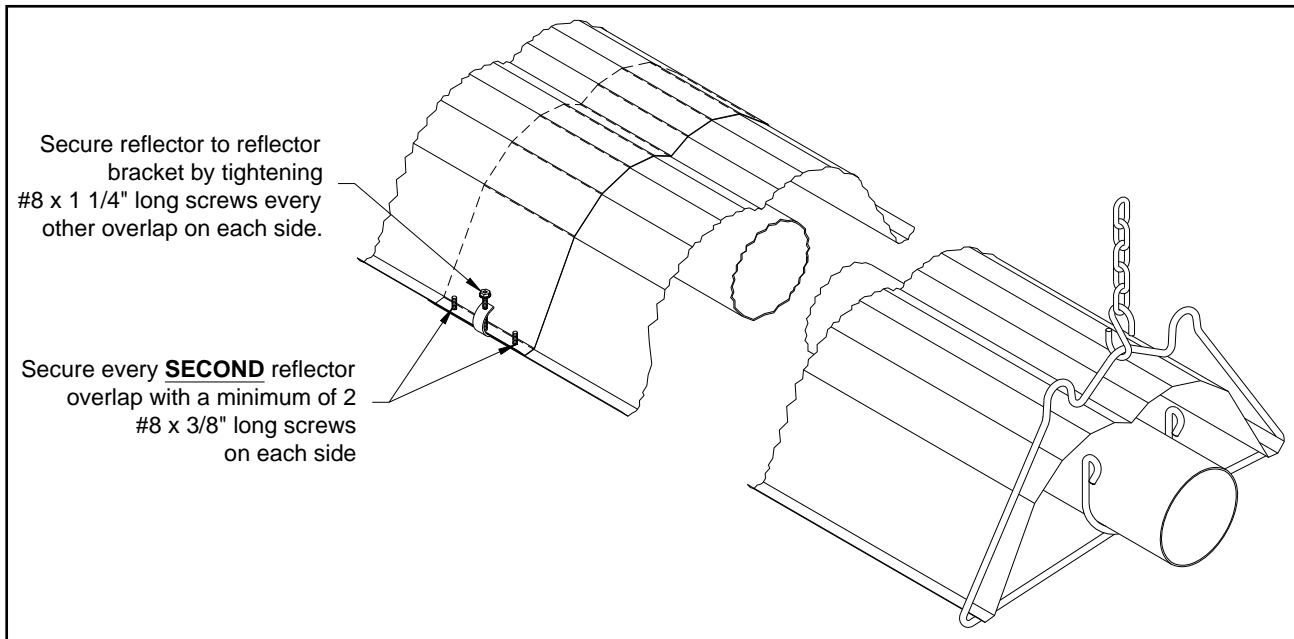

Figure 16: Reflector Supports Installation and Reflector Overlap
- Secure every second reflector overlap together with a minimum of 2 - #8 x 3/8" long screws (not supplied), and secure reflector to the reflector bracket at this point by tightening down #8 x 1/4" screws supplied with reflector brackets (Figure 16). The remaining reflector overlap joints and reflector brackets are left loose to accommodate system movement.